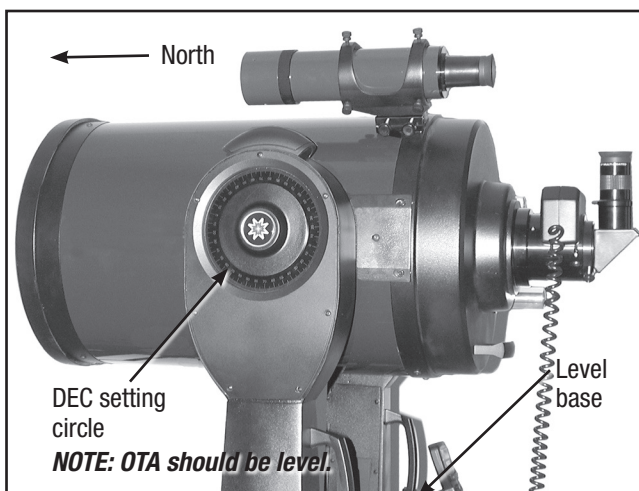

Fig. 12. Alt-az home position
- a. See **Figs. 12 and 13 on page 42.** Loosen the telescope's DEC lock (**Pg. 10, Fig. 1, 17**). Set the optical tube to 0° on the DEC setting circle (**Fig. 1, 20**).